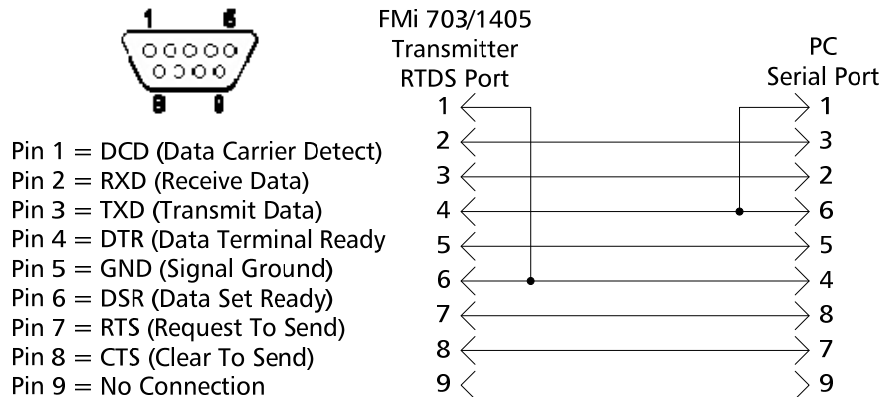

Figure 17 – Null Modem Cable Pinout
Step 1 – Establish communication from the PC to the transmitter using Hyperterminal. Connect a Null Modem Cable from the serial port of a PC to the RTDS Port on the front of the FMi 703/1405 Transmitter as shown below. See **Figure 17** for cable construction.